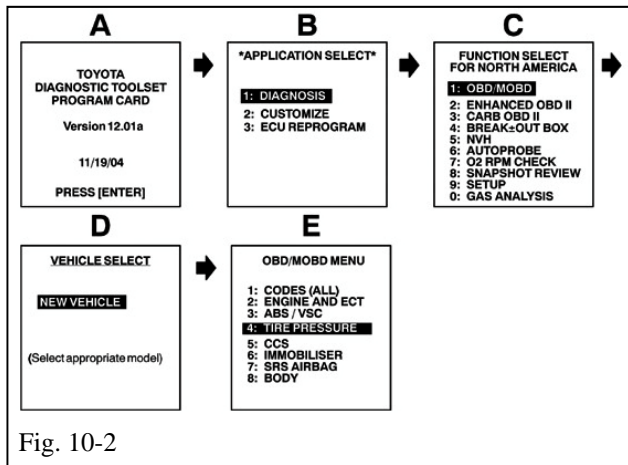
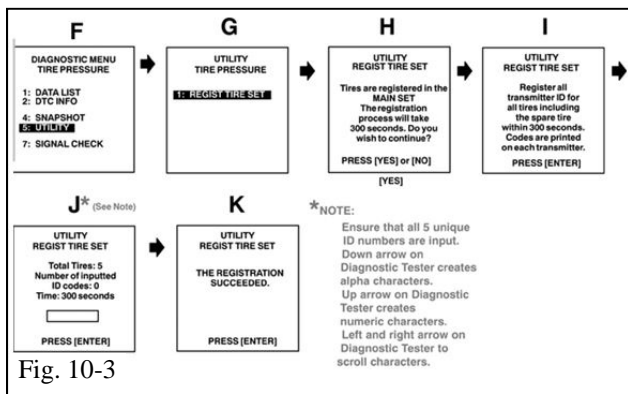

Fig. 10-2
Fig. 10-3
- (d) Turn on the tester and select UTILITY - REGIST TIRE following the hand-held tester screen prompts (Fig. 10-2 & Fig. 10-3).